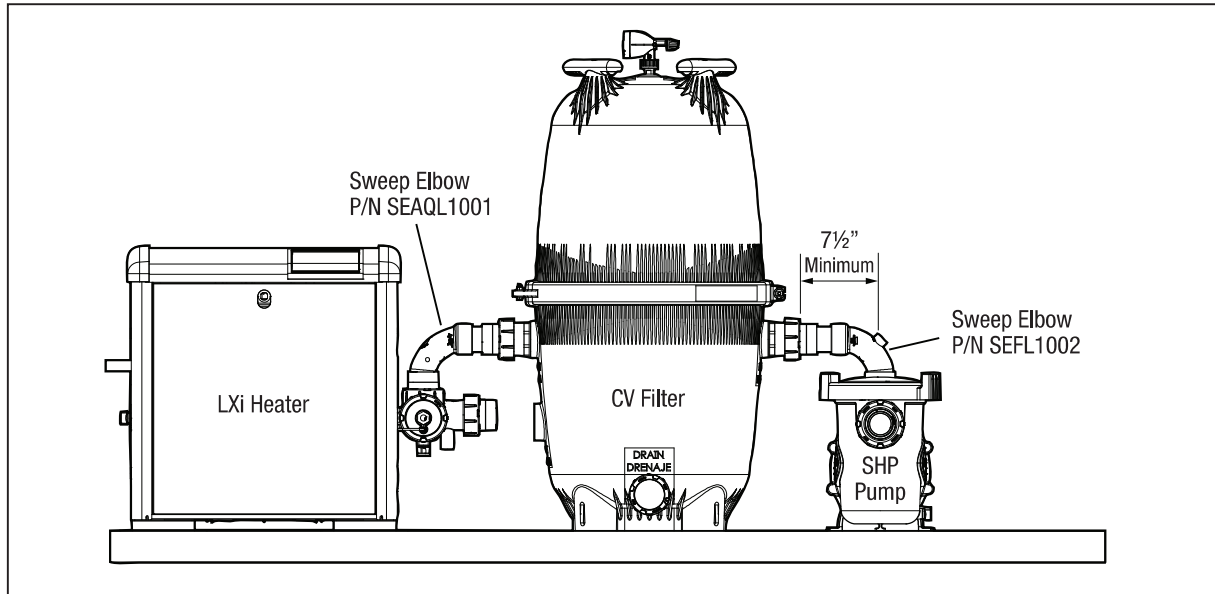

Figure 8. LXi™ Heater, CV Filter and SHP Pump Sweep Elbow Installation
- b. Be sure there is a minimum distance of 7½ inches between the center of the pump outlet port and the filter inlet bulkhead to accommodate the sweep elbow(s). See Figure 8 for recommended installation configuration.
NOTE: The SHP pump shown in Figure 8 is for reference only. The Jandy Pro sweep elbow also works with the MHP and PHP series pumps.